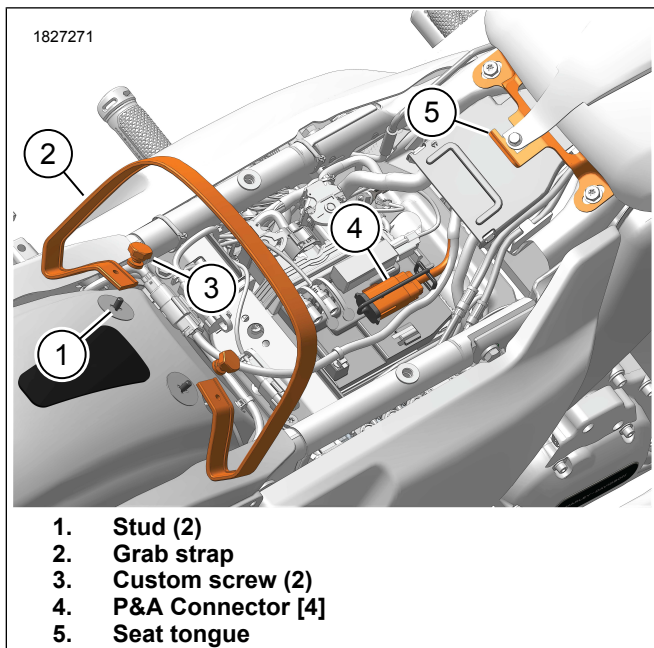

Figure 2. Component Locations
1. See Figure 2. Install **new** grab strap.
- a. Install grab strap (2) to studs (1).
- b. Install custom screws (3).
3. See Figure 2. Connect seat harness connector (5) to P&A accessory connector (4).
5. See Figure 2. Insert rear of seat through grab strap (2) until seat mounting slot (6, Figure 7) on front underside of seat is behind seat tongue (5).
6. See Figure 2. Slide seat forward until seat tongue fully engages into seat mounting slot (5).